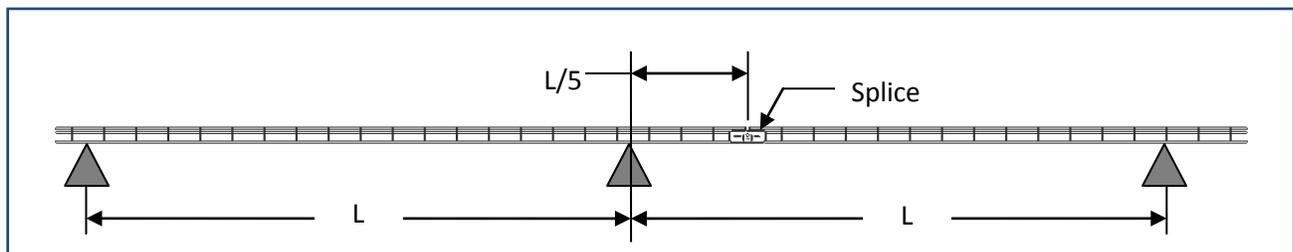

Figure 5: Splice Location in Relation to Supports, Side View
- Straight splice (see Figure 5)
Splices for straight section of cable tray should be positioned no more than 1/5th of the support span away from a support to maintain the SWL of the cable tray, as shown in Figure 5. The 12" and 18" wide Wyr-Grid® Cable Trays utilize the WG1218SPL** splice kit, which consists of two side splices. The 24" and 30" wide Wyr-Grid® Cable Trays utilize the WG2430SPL** splice kit, which consists of two side splices and two center splices.